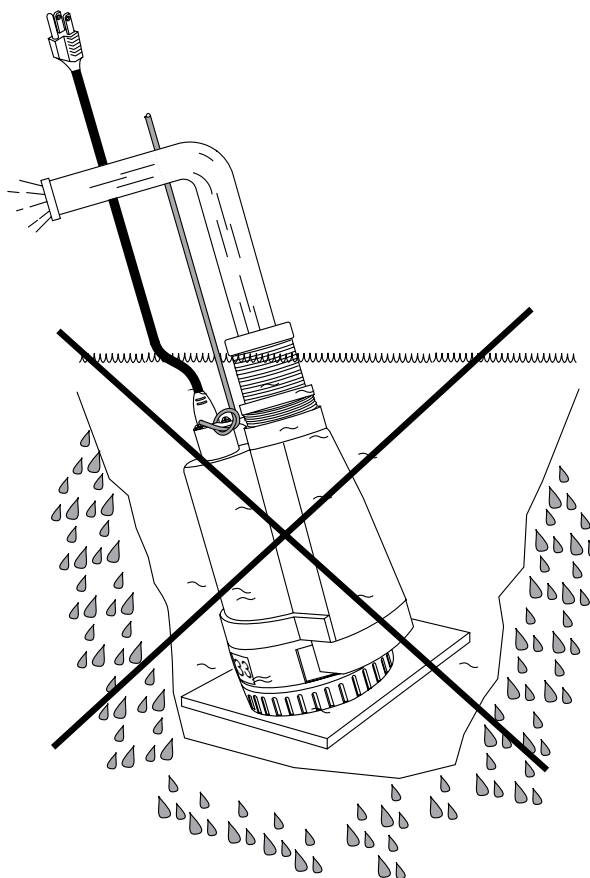

Figure 3. Submersible Pump Upright Position (Incorrect)
2. Make sure the pump is always placed in an upright position, not tilted (Figure 3). Never position the pump directly on a soft, loose bottom. Remember to attain maximum pumping capacity and prevent excessive wear, position the pump so it will not burrow itself into sand or clay.